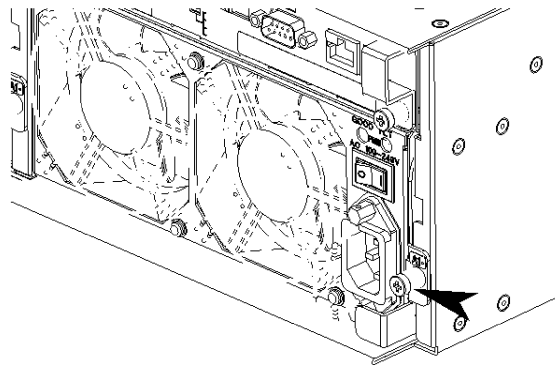

Figure 3-28. Securing the Power Supply Ejector.
- 15.** Secure the ejector with the set screw. See Figure 3-28.